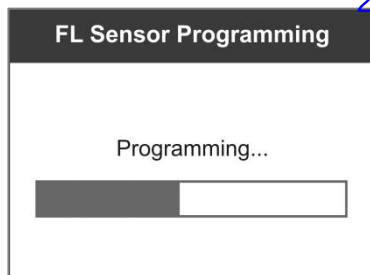
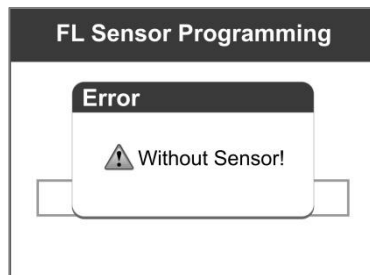

Figure 5.9
Figure 5.10
- 5) Press the **Y** button to write in the new created sensor ID to the MX-Sensor and the screen will show as below (Figure 5.9), or the **N** button to exit without change. If an error prompt displays (Figure 5.10), please try another type of MX-Sensor, for the type of the inserted MX-sensor may be incorrect.